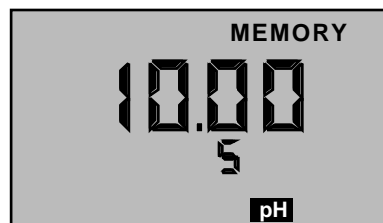

Figure 4
2. "MEMORY" will appear and the temperature display will be momentarily replaced by a number (1-20) showing the position of the record. Figure 4 shows a reading of 10.00 pH stored in memory record #5.